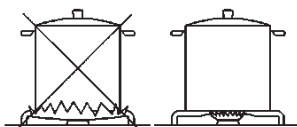

Fig. 2
- Use suitable saucepans for each burner (see the following table and Fig. 2).